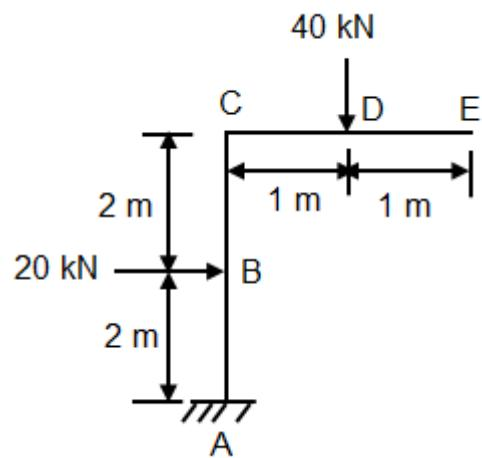

Fig Q10(b)
b) Determine the vertical deflection at 'E' of the cantilever frame as shown in Fig Q10(b) below. Take EI constant.